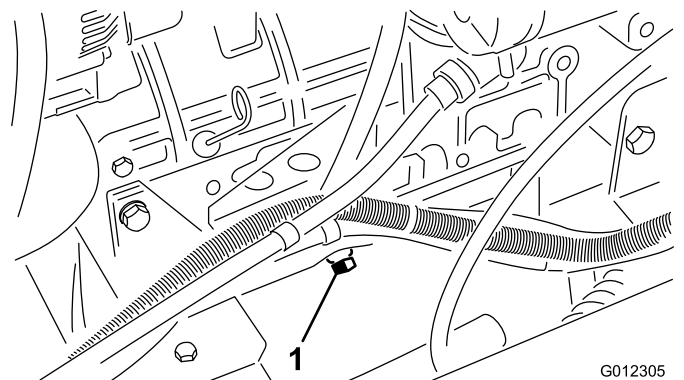

Figure 31
1. Remove the drain plug (Figure 31) and let the oil flow into a drain pan.